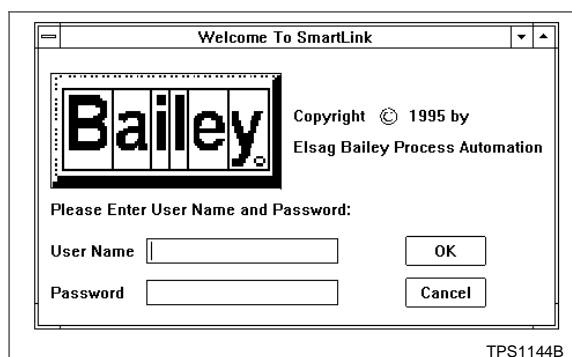

Figure 3-3. SmartLink Log-In Window
2. Double-click on the SmartLink icon. The window shown in Figure 3-3 appears.